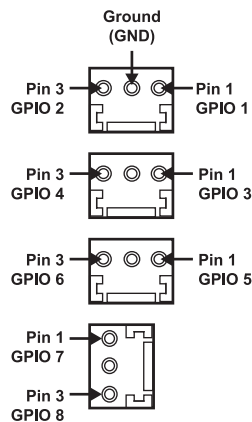

Figure 2.8 GPI Connections — 8320AR-033 and 8320AR-061 Rear Modules
- Refer to **Figure 2.8** for GPI/Tally configuration on the rear module.
- Refer to **Figure 2.8** for GPI configuration on the rear module.